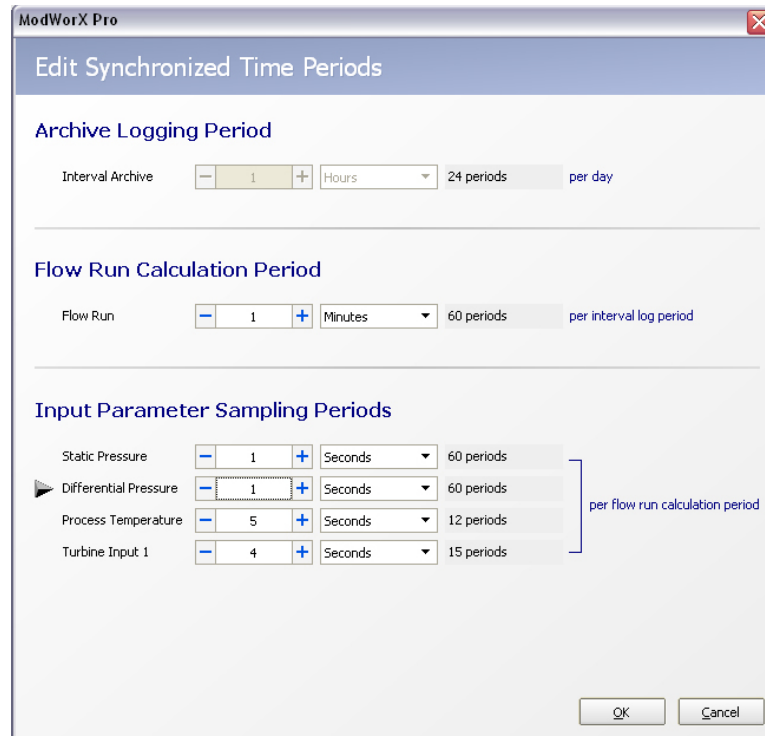

Figure 6.5
- i. Click **Edit**. The Edit Synchronized Time Periods dialog will appear, and an arrow will point to Differential Pressure (Figure 6.5, page 76).